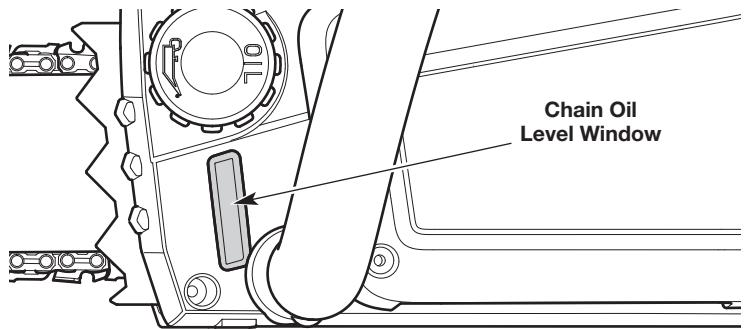

Fig. 36
1. Set the unit on a flat, level surface. Position the unit upright (Fig. 36).
2. Look into the chain oil level window. The oil level should fill the window at least halfway (Fig. 36). If the oil level is too low, add bar and chain oil. Refer to *Filling the Chain Oil Reservoir*.